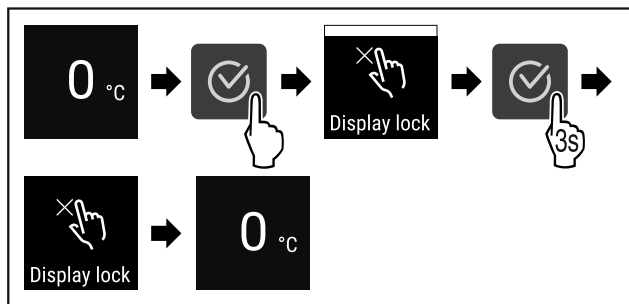

Fig. 77
- ▶ Carry out steps (see Fig. 77) .